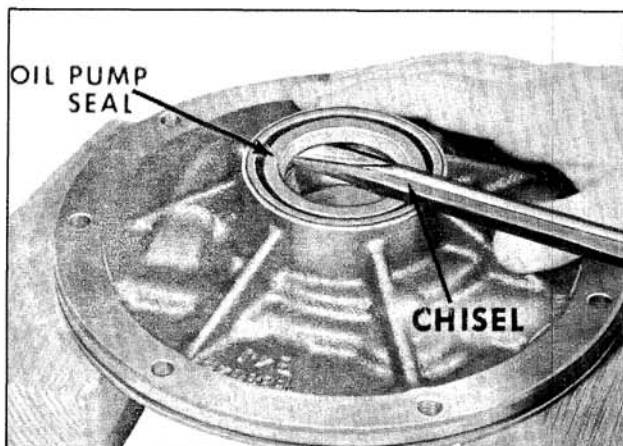

Fig. 6-416 Removing Oil Seal
12. Examine oil pump seal. If nicked, torn or worn, remove seal as follows. Support oil pump body on wood blocks. Remove oil seal with a chisel and discard. (Fig. 6-416)